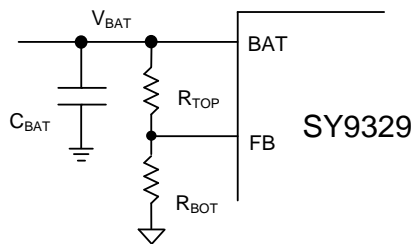

Fig3. Schematic of V_{BAT} under Sink Mode
Under sink mode, the VBUS pin is connected to the power input, the BAT pin is the power output and the FB pin is the feedback input. The output voltage V_{BAT} is programmed by external voltage divider (see Fig. 3) with the 1V internal voltage reference as given in equation (1).